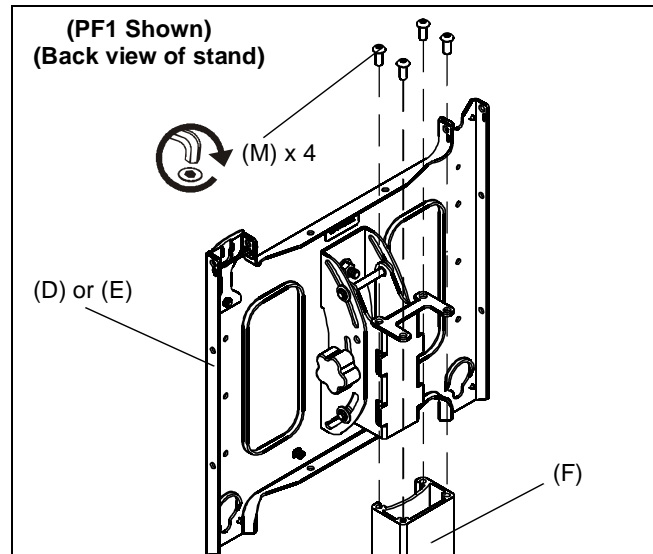

Figure 7
1. Attach head assembly (D) or (E) to the stand assembly using four 5/16-18 x 3/4" button head cap screws (M). (See Figure 7)